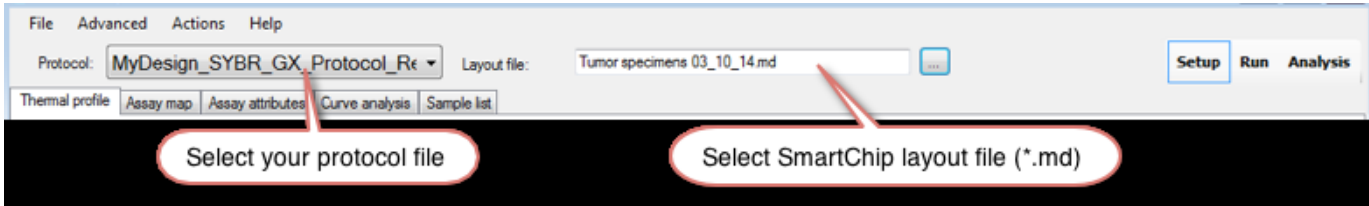

Figure 13. Selecting a saved protocol from a previous experiment for your SmartChip MyDesign Chip.
Table 6 describes the selections available from the Setup mode top menu bar (Figure 13).
- Select an appropriate saved protocol from a previous experiment (Figure 13).